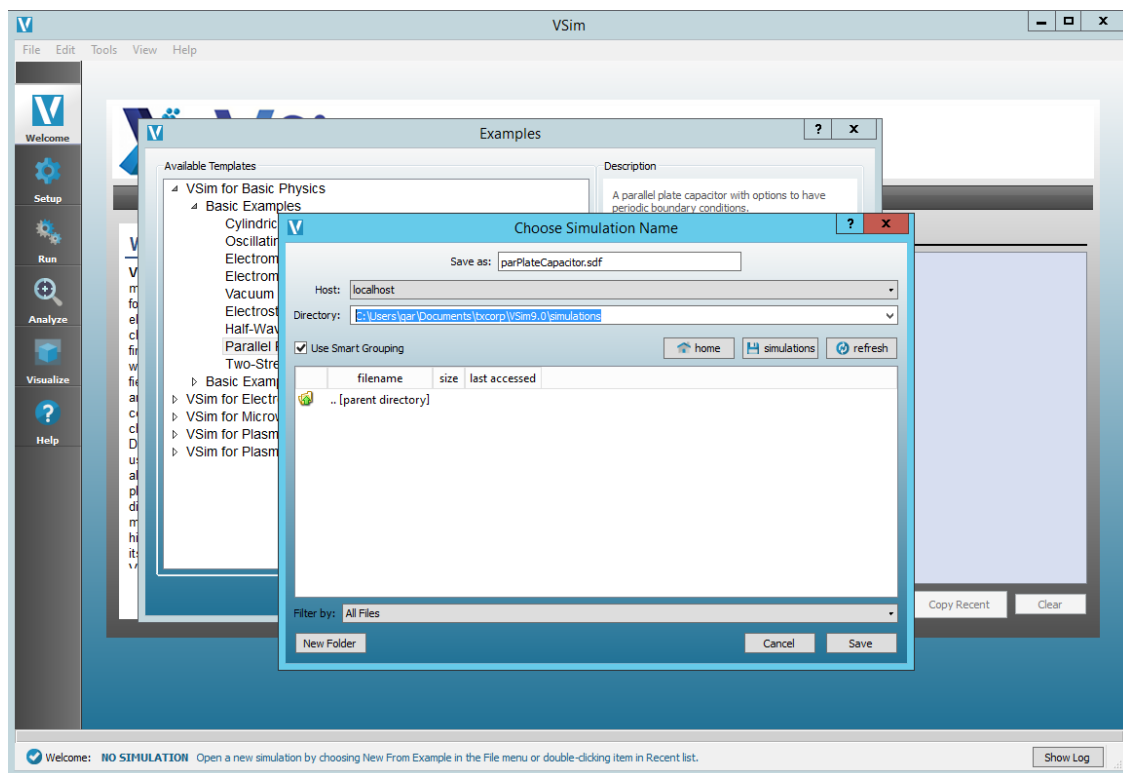

Fig. 8.12: Choose the shared drive in the Directory field so that the subsequent New Folder is on that drive.
- Select the text in the *Directory* field and replace it with the shared drive UNC path. See Fig. 8.12 below.